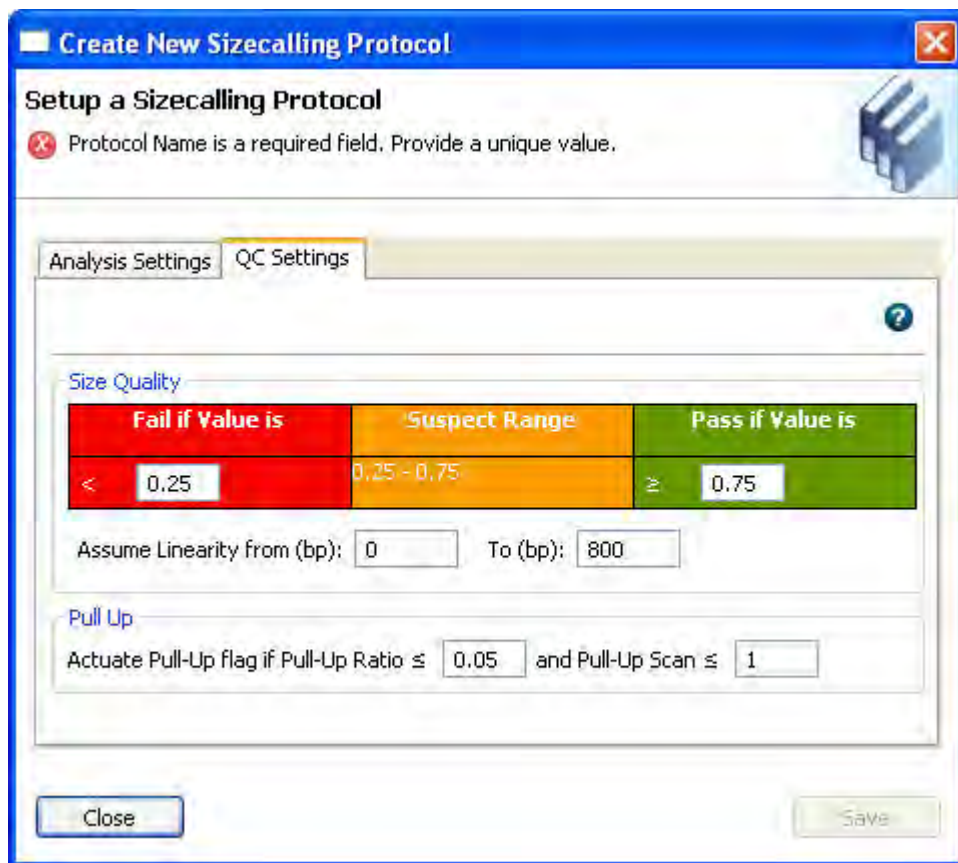

Figure 35 Create New Sizecalling Protocol—QC Settings
4. Click **QC Settings**. In the QC Settings tab of the Create New Sizecalling Protocol dialog box (Figure 35), specify settings (“Sizecalling protocol—QC settings” on page 211).